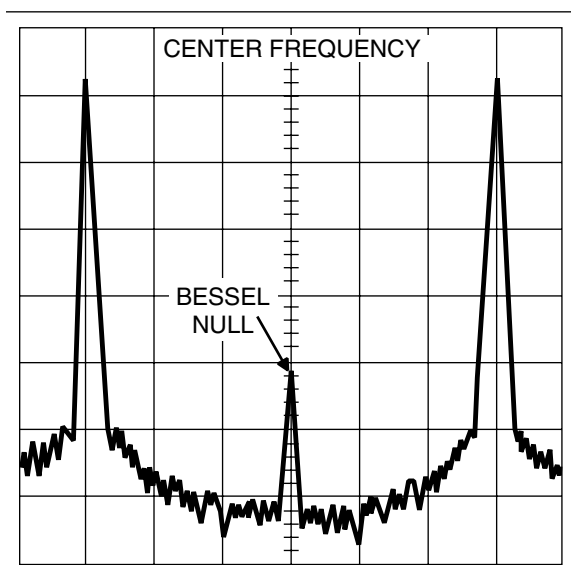

Figure 3-15. Typical Spectrum Analyzer Display of Bessel Null on Φ M Waveform
4. On the 693XXB, use the cursor control key to place the cursor under the last 0 in the deviation setting (2.40 rad). While observing the first Bessel null (Figure 3-15), increase/decrease the Φ M deviation with the cursor control key to reduce the carrier as low as possible.